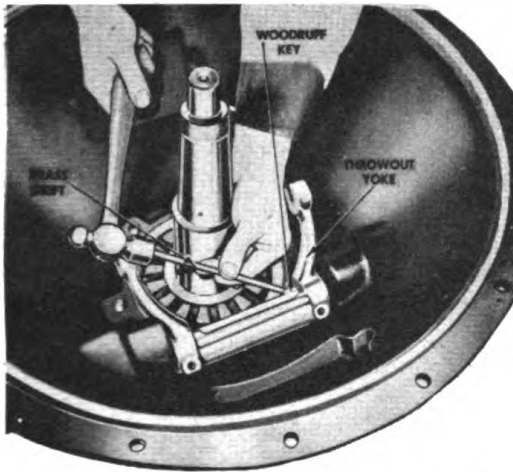

Figure 305. Removing Woodruff key.
A. To remove the operating shaft, drive out the Woodruff keys from the keyway of the operating shaft and the throw out yoke with a brass drift as shown in Figure 305 or by driving out the operating shaft with a lead hammer or a block of wood and hammer.